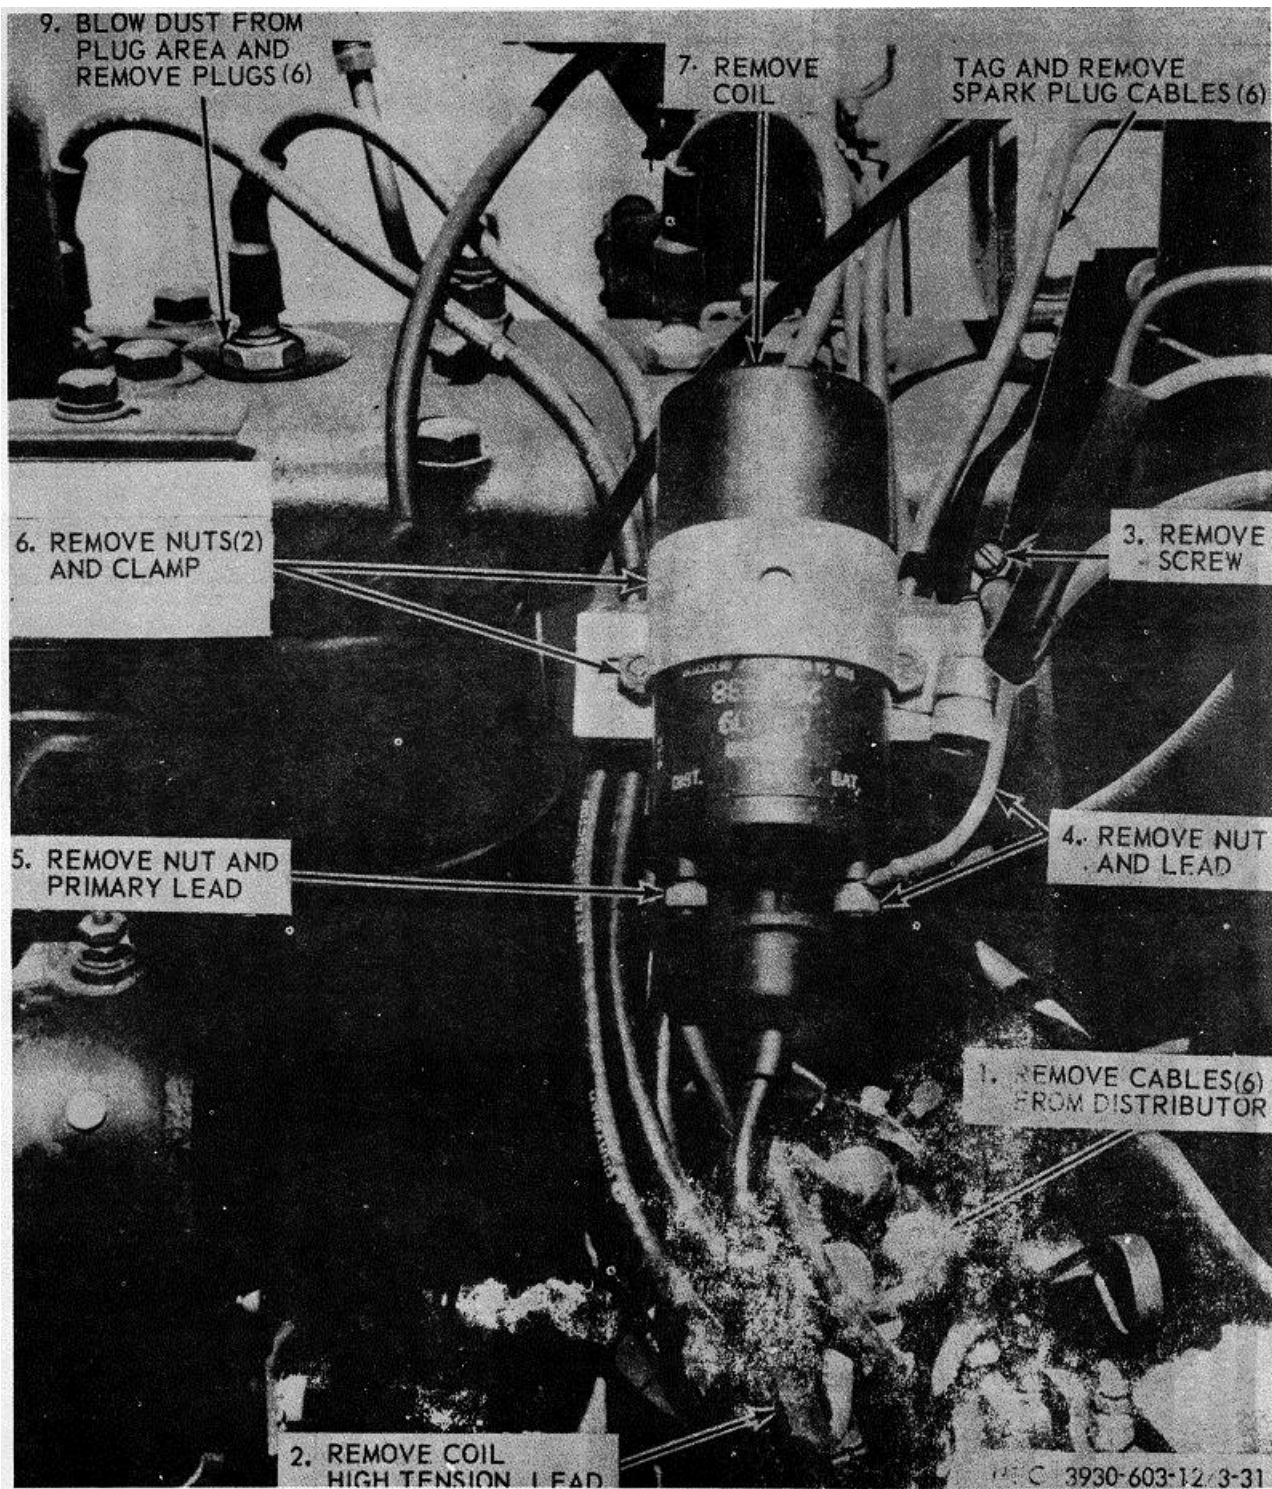

Figure 3-31. Coil, spark plugs and cables, removal and installation.
a. *Removal.* Remove coil, spark plugs and cables as illustrated in figure 3-31.
(1) Clean all spark plugs with an abrasive type spark plug sand blaster.
(2) Inspect insulation for breaks, cracks or chips. Inspect the electrodes for carbon deposits or burned electrodes.